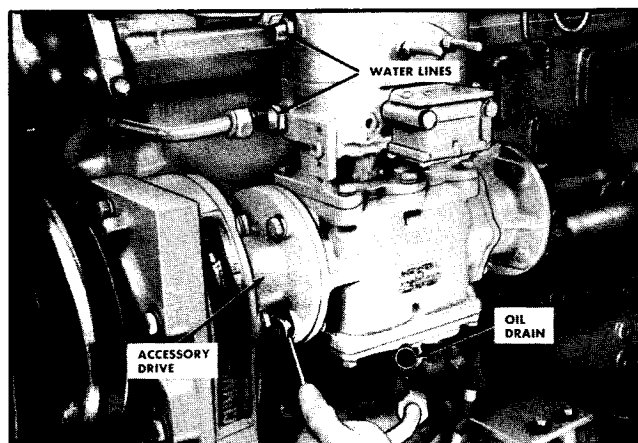

Fig. 4-16. Removing air compressor
3. Remove the two capscrews holding the compressor support to the cylinder block and the four capscrews holding the air compressor to the accessory drive. Fig. 4-16.